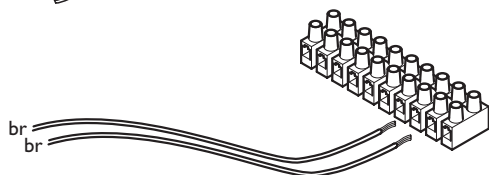

Fig. 8
9. Connect the two brown wires on the new harness to the terminal strip as shown (Fig. 8).